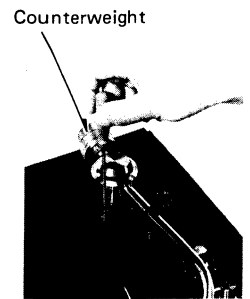

Fig. 32
10-(4) Tonearm Elevator Height Adjustment (Fig. 32)